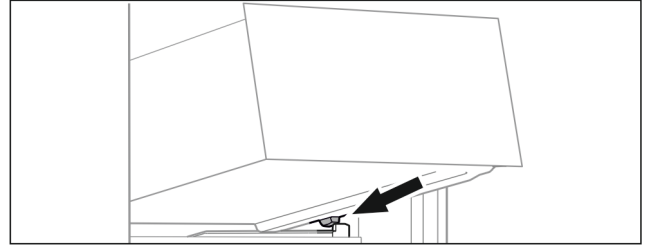

Fig. 20
- ▶ Place drawer on the molded ribs behind the stoppers with the drawer tilted up at the front Fig. 20 (1).